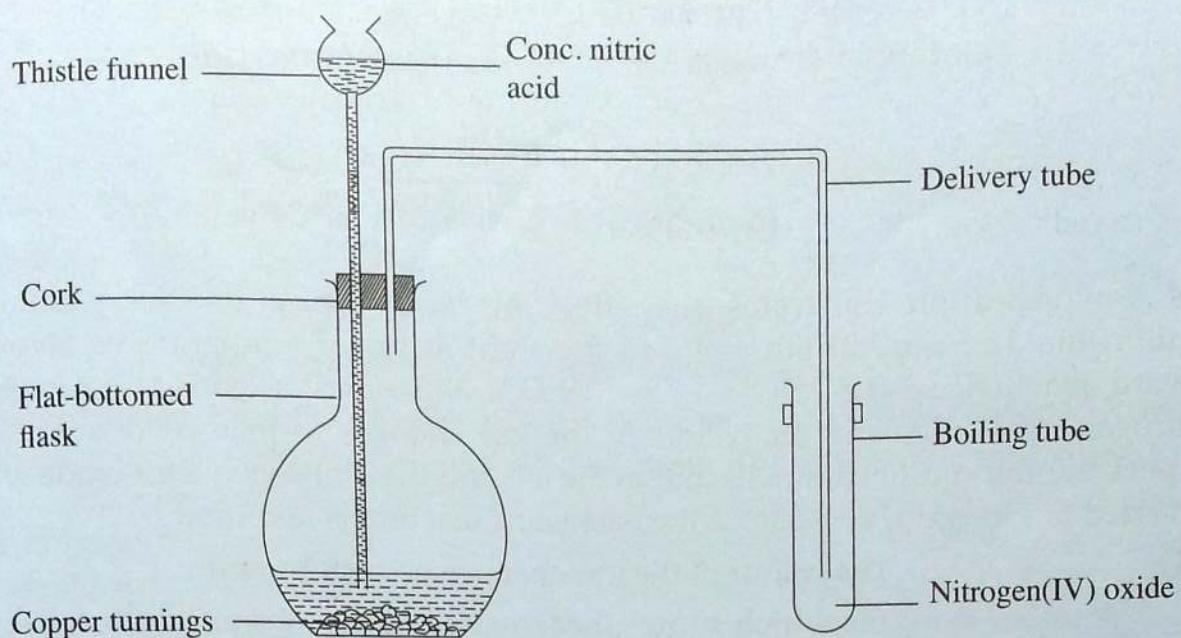

Fig. 1.19: Preparation of nitrogen(IV) oxide
2. Arrange the apparatus as shown in Fig. 1.19.